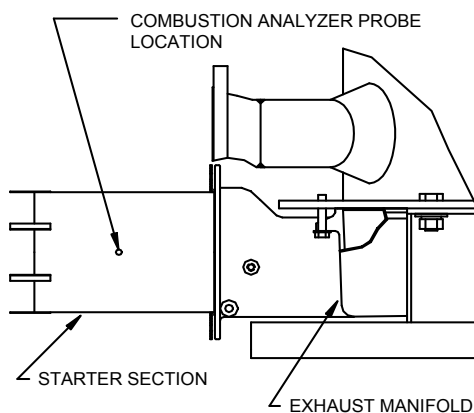

Figure 4.2
1. If the unit has been installed using the recommended AL29-4C vent, there will be a 3/8" hole, in the center of the starter section (Part #123679). The outer vent section, that covers the vent section connections must be loosened and moved to uncover the hole (see Figure 4.2)